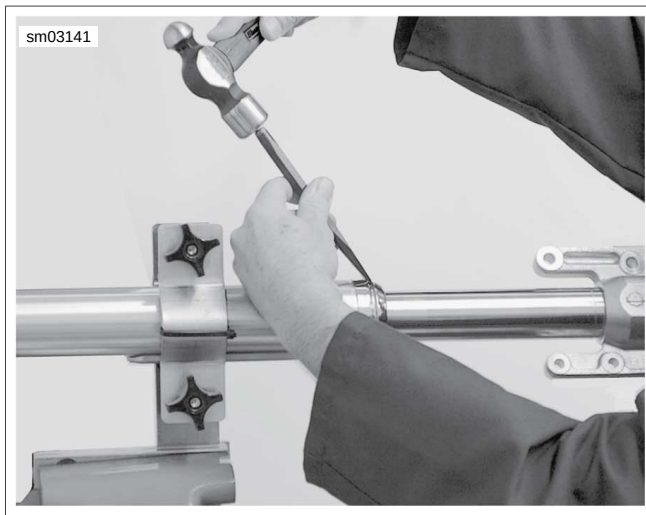

Figure 2-180. Remove Chrome Dust Cover
7. See Figure 2-180. Using FORK TUBE HOLDER (Part No. HD-41177), mount fork assembly in vise.